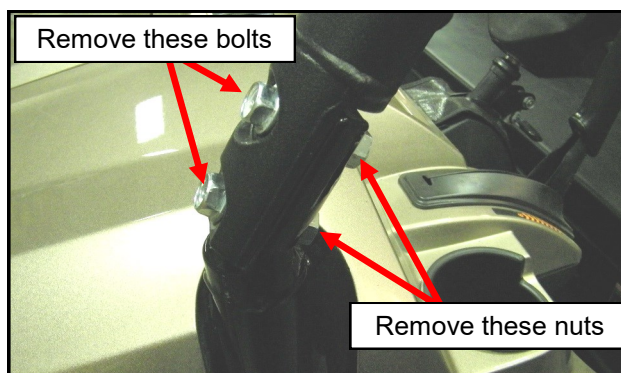

Fig. 1.4 Front ROPS M12 bolts (4)
**1.4** Per figure 1.4, remove and discard the two (2) M12 bolts and nuts from each of the front corners of the ROPS (Rollover Protective Structure).